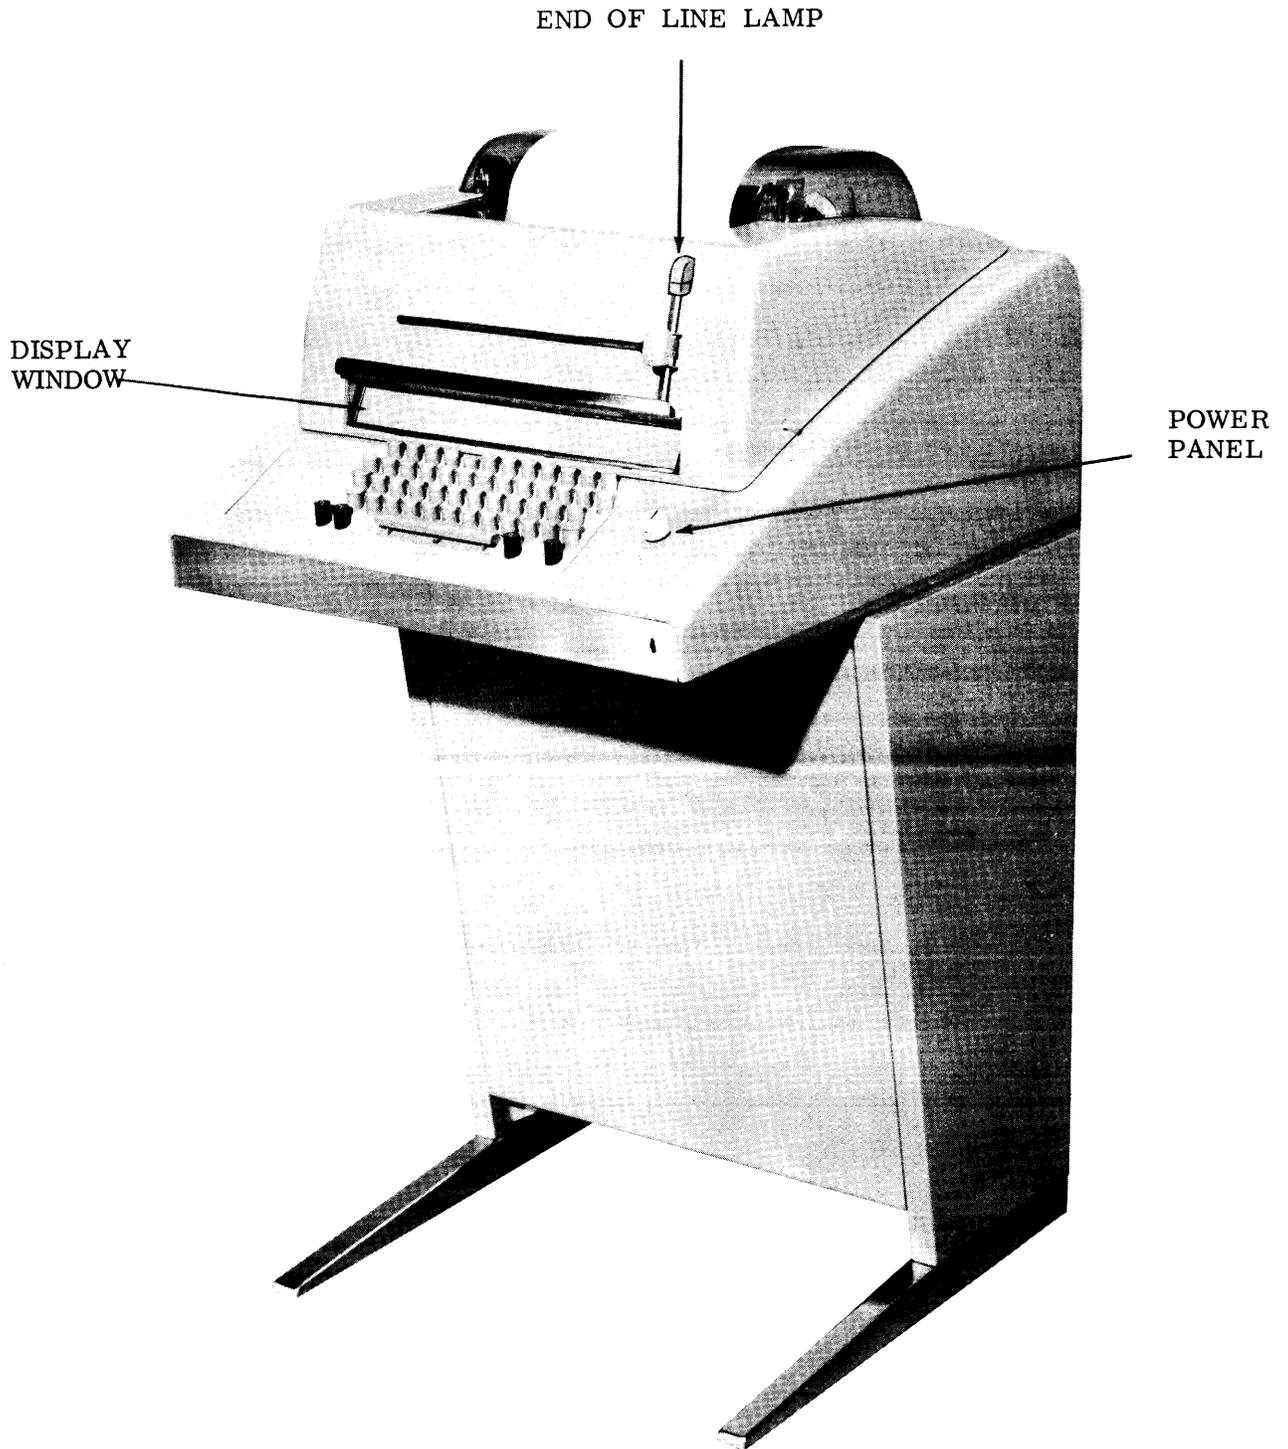

Figure 1 - 35 Keyboard Send-Receive (KSR) Teletypewriter Set
- (a) Floor Model Set - A floor-standing set with space in the pedestal for accessory equipment. The cabinet pan on this model is welded to the top of the pedestal (Figures 1, 2 and 3).
#### ENCLOSURES (Figures 1 through 4)